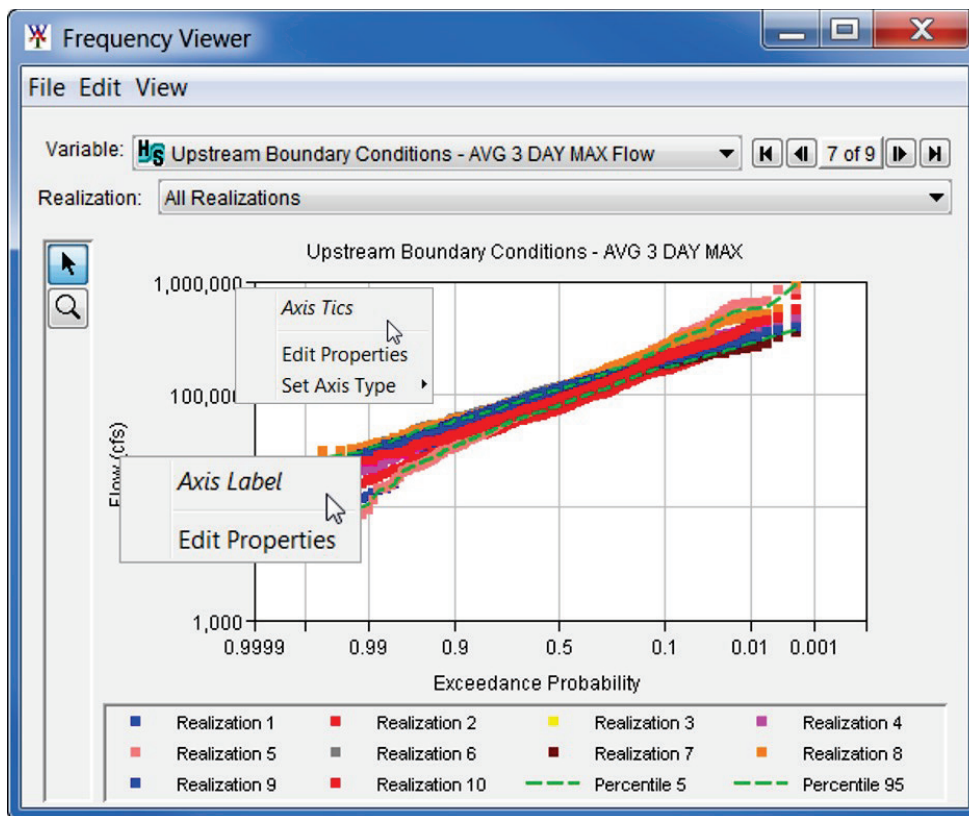
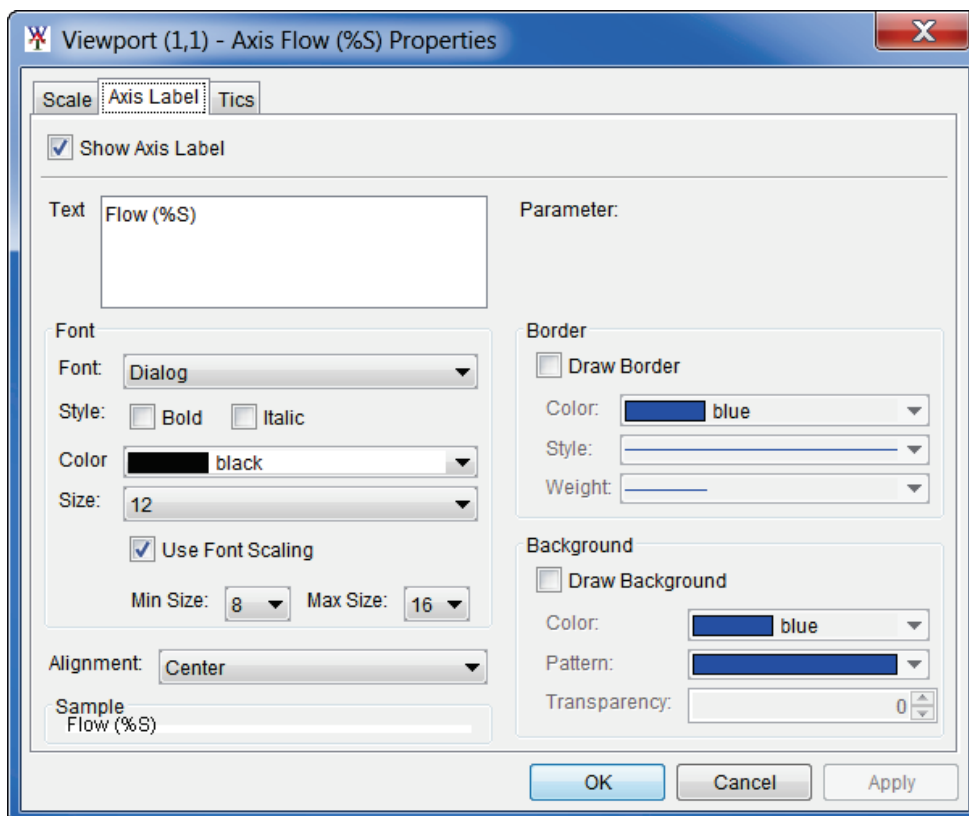

Figure M.27 Axis Label and Tics Shortcut Menus
Figure M.28 Viewport – Axis Label Properties Dialog Box
From the plot window, right-click on the axis label of a plot (X or Y), from the shortcut menu (Figure M.27), right click **Edit Properties**, the **Viewport – Axis Label Properties** dialog box will open (Figure M.28).
- From the default tab – **Axis Label** (Figure M.28), **Show Axis Label** displays an axis title (Figure M.28). The user can define the title by entering information in the **Text** box (Figure M.28). Click **Apply**, the title of an axis will display.
From the plot window, right-click on an axis tic label, from the shortcut menu (Figure M.27), right click **Edit Properties**, the **Viewport – Axis Label Properties** dialog box will open (Figure M.28). The user can change the axis type, from the shortcut menu (Figure M.27), point to **Set Axis Type**, click **Linear Axis** (in Figure M.27 the axis type is **Log Axis**). The plot will now display as a linear plot. To change the plot to a log plot, from the shortcut menu (Figure M.27), point to **Set Axis Type**, click **Log Axis**